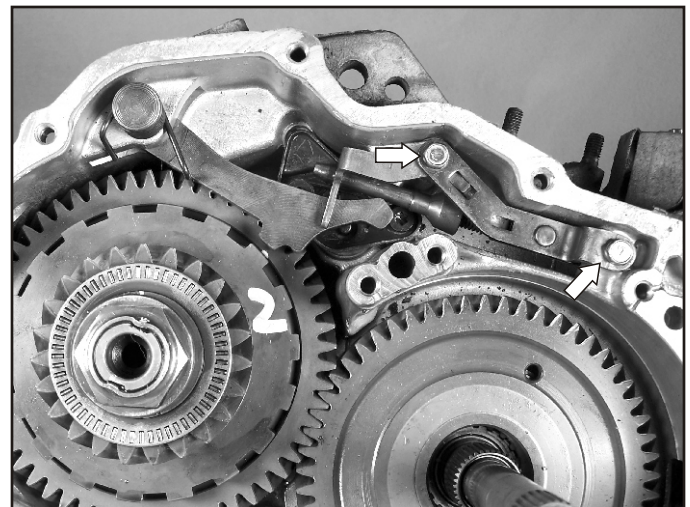
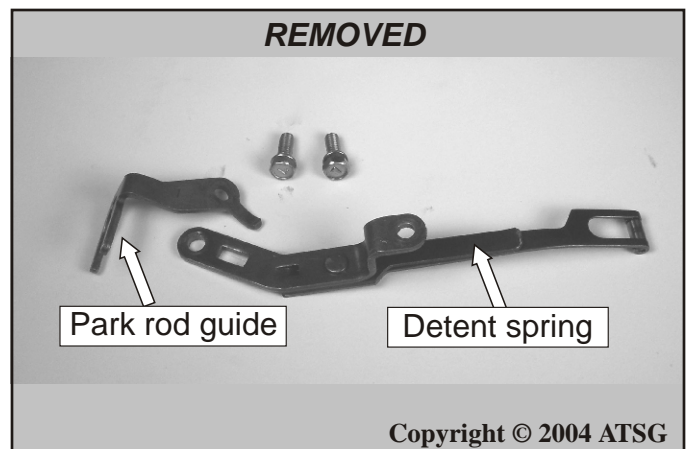

Figure 53
Figure 54
13. Remove the 2, 10mm headed detent spring retaining bolts, detent spring and park rod guide as shown in Figure 53. Refer to Figure 54 to see this assembly removed from the Case. **Note the bolt lengths are 15.5mm long.**